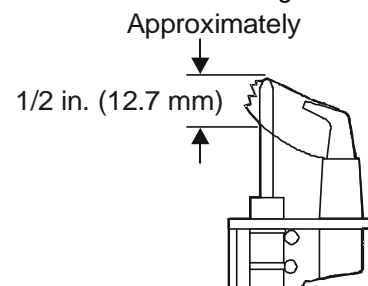

Figure 7: Flame Position
- A flame approximately 1/2 in. (12.7 mm) high must surround the thermocouple tip (see Figure 7).